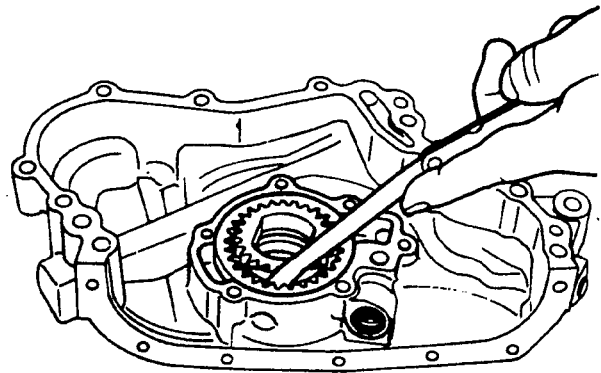

FIGURE 9-30. CHECKING CLEARANCE BETWEEN INNER GEAR TOOTH END AND CRESCENT
4. Check the clearance between the inner gear tooth end and crescent (Figure 9-30).